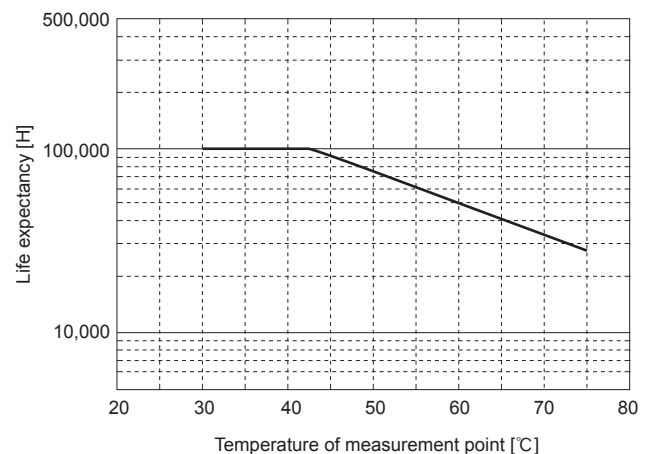

Fig.3.1 Life expectancy of fan
- The life expectancy time (R (t) = 90%) of the built-in fan depends on the operating condition as shown in Fig. 3.1.